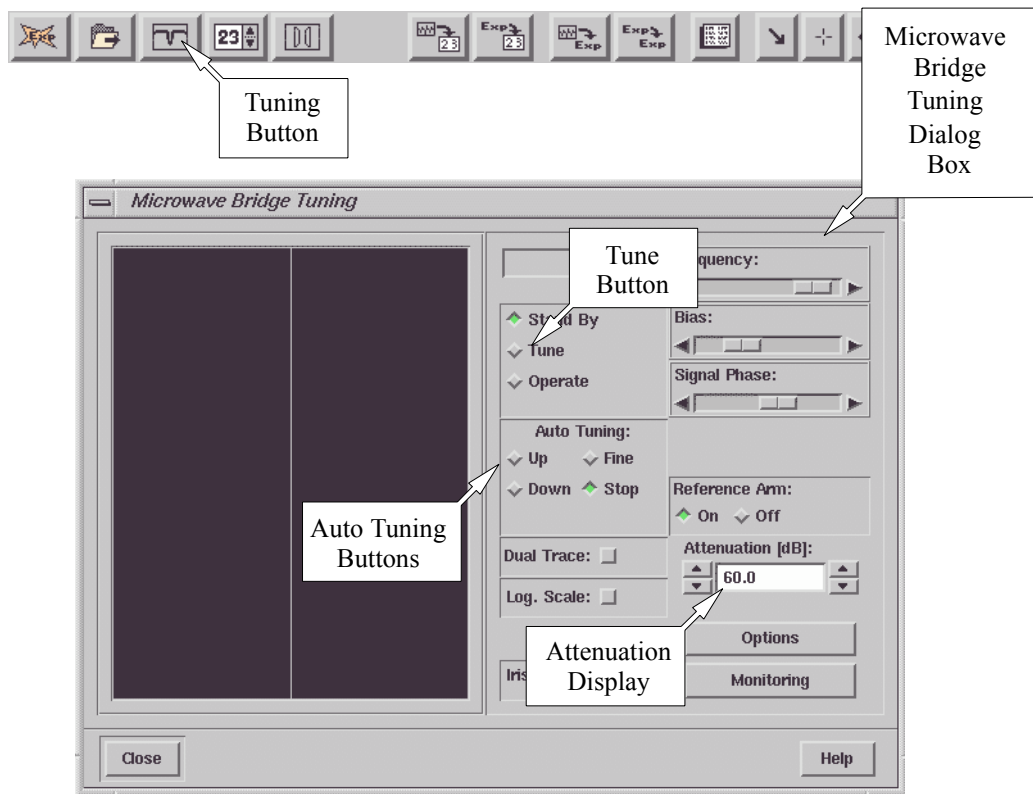

Figure 3-8 The Microwave Bridge Tuning dialog box.
(See Figure 3-8.)
There are three states or modes for the microwave bridge: **StandBy**, **Tune**, and **Operate**. When you connect to your spectrometer, the bridge is in **Stand By**, indicated by a green **Stand By** button. (See Figure 3-8.) If you have been acquiring spectra already, your bridge will probably be in **Operate**.
3. **Set the microwave attenuator to 30 dB.** The microwave attenuation is set by clicking the arrows on either side of the attenuation display in the dialog box. (See Figure 3-8.) The arrows on the left change the attenuator in 10 dB steps; those on the right in 1 dB steps.
7. **Tune the bridge and cavity.** Pressing either the Up button or Down button of Auto Tune starts the automatic tuning procedure. (See Figure 3-8.) The Up button starts by scanning the microwave frequency up in search of the cavity dip (or frequency where the cavity resonates). The Down button starts by scanning the microwave frequency down in search of the cavity dip. If you are not sure if the search should start up or down, do not worry. The frequency will be scanned until its limit is reached and then scan in the other direction until the cavity dip is found. The Auto-Tune routine adjusts the frequency, phase, and bias of the bridge and the coupling (matching) of the cavity. If there is an error message, try manual tuning described in Section 7.1. If you still have difficulty in tuning, it usually means that you have a lossy or conductive sample. Refer to Chapter 9 for trouble shooting.
8. **Close the Microwave Bridge Tuning dialog box.** Click the Close button. The Microwave Bridge Tuning dialog box will then disappear. (See Figure 3-8.)